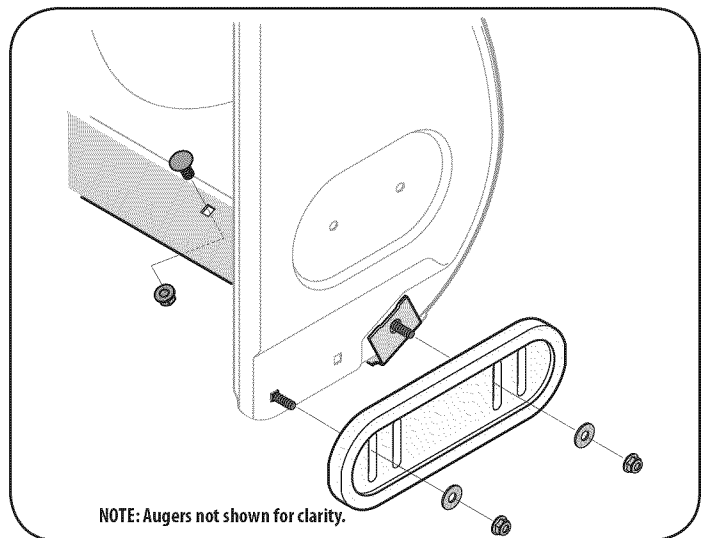

Figure 26
2. Reassemble new skid shoes with the four carriage bolts (two on each side), washers, and hex flange nuts. Refer to Figure 26.
4. Reassemble new shave plate, making sure heads of carriage bolts are to the inside of housing. Tighten securely. See Figure 26.